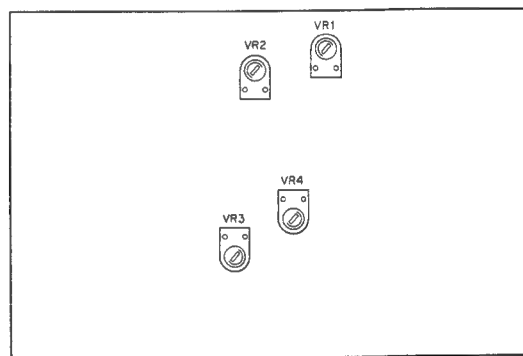

Fig. 28 AF - AVR unit
- 3) Turn OFF RIT switch and adjust VR2 in AF AVR unit (X49-1080-00) until the beat frequency is kept unchanged when RIT switch is turned ON and OFF (refer to Fig. 28).